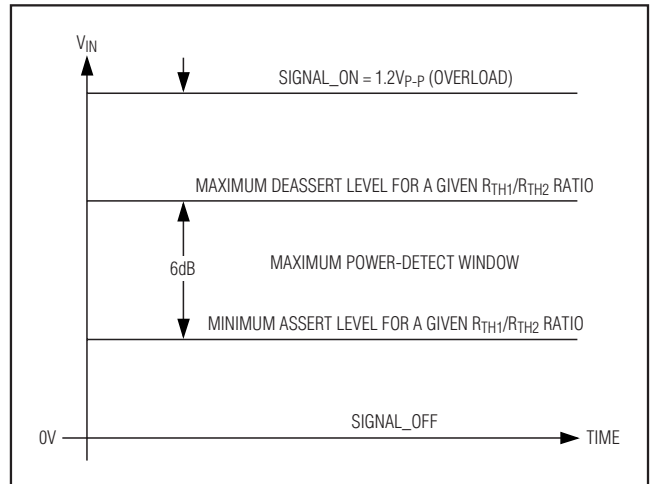

Figure 2B. LOS Deassert Threshold—Operating at Input Overload
**Note 9:** The signal at the input is switched between 1.2VP-P and Signal\_OFF as shown in Figure 2B.